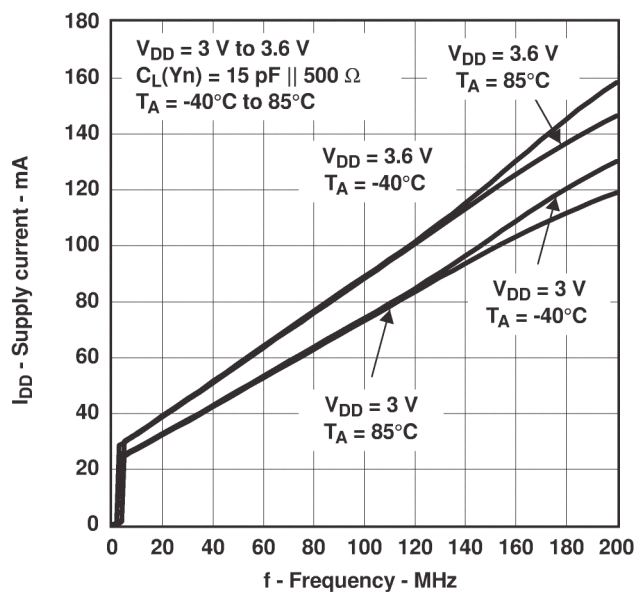

Figure 9-2. Supply Current vs. Frequency
(1) All typical values are at respective nominal  $V_{DD}$ .
(2) For  $I_{DD}$  over frequency see Figure 9-2.